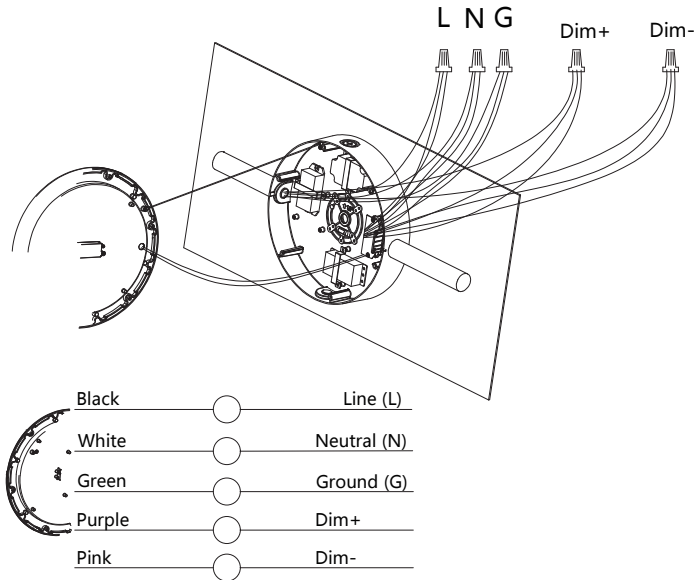

Fig.14
6. Connect the light input wire. (Fig.14)